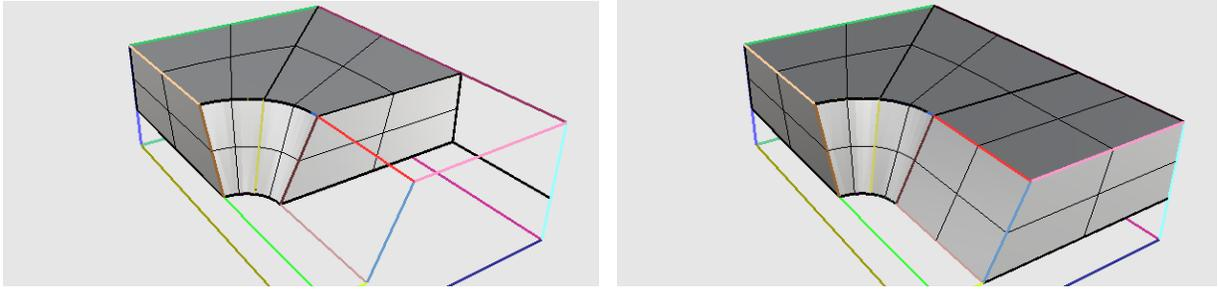

Figure 75: Completing the second (left) and third (right) solids
- Click **OK** to complete the loft. **Delete** the **borders** (which have remained highlighted). Select the **two** end faces and the newly created lofted **polysurface**, and **Edit|Join** to complete your second **solid** (Figure 75, left). Complete the **third** solid in the same fashion (Figure 75, right).